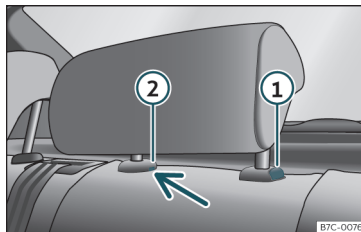

Fig. 126 Rear centre head restraint: release point.
- To set the head restraint lower down, press the  >>> **Fig. 126** button and move it downwards.
- Press button  >>> **Fig. 126**, while simultaneously pressing on the security hole  >>> **Fig. 126** with a flat screwdriver a maximum of 5 mm wide, and remove the head restraint.